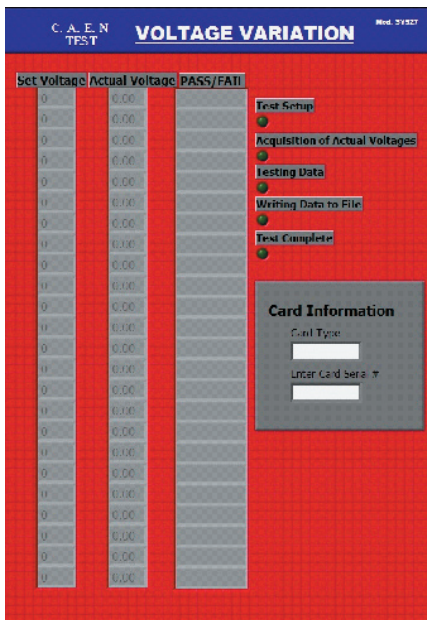

FIG. 1. Voltage variation FP
The voltage variation test, Fig. 1 shows the front panel (FP), ramps all twenty-four channels to the demand voltage, 1250 VDC, and checks whether the output voltage measured by the High Voltage Controller Module (HVCM) satisfies: